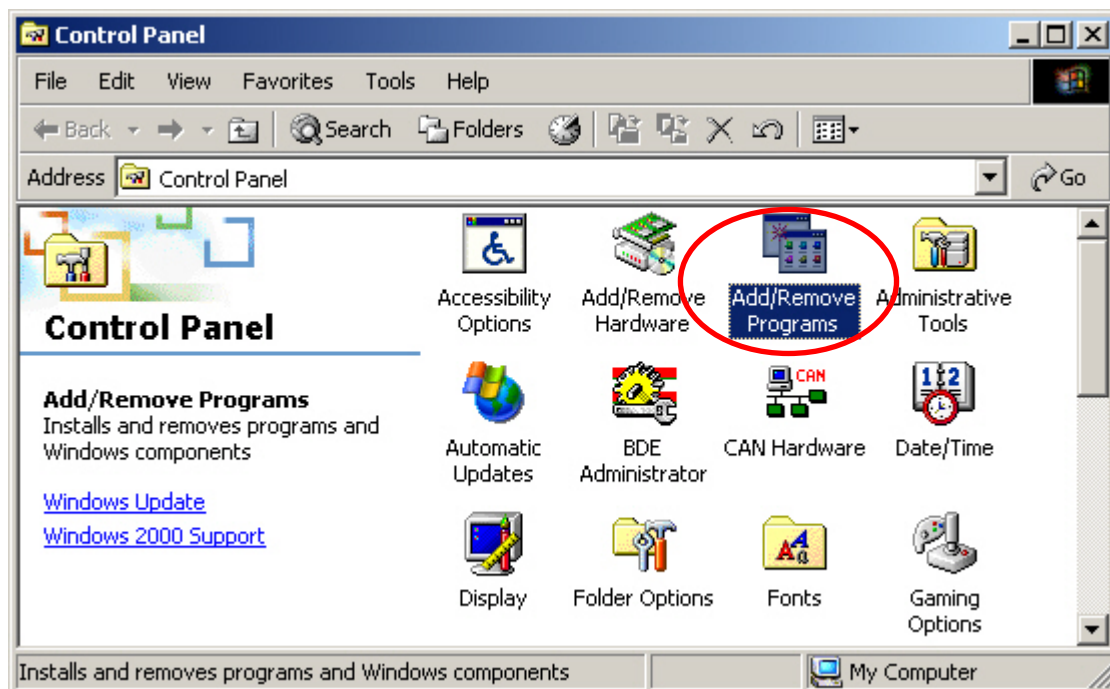

Figure 6-8 “Add/Remove Programs”
**Step 2:** Click the “Add/Remove Programs” button icon to open the dialog. See figure 6-8.